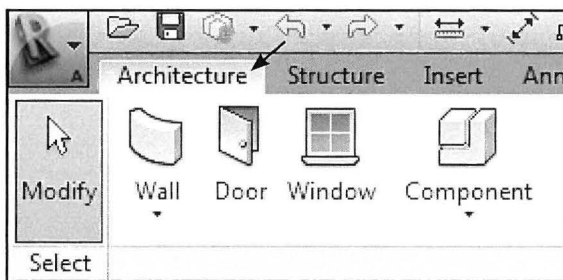

Fig. 05.82. Vælg Wall under Architecture.
- Klik *Architecture - Wall* (Fig. 05.82).